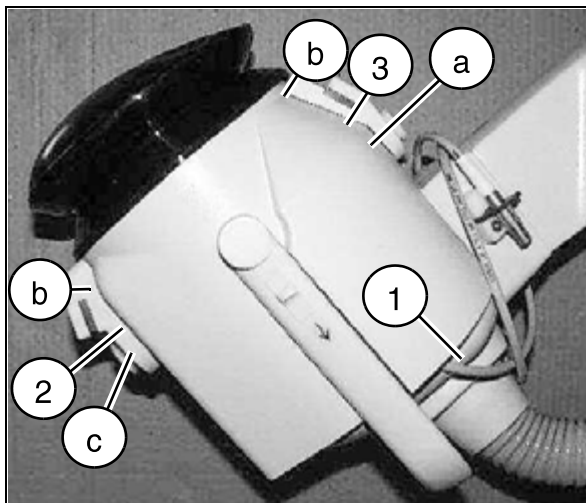

Fig. 49: Attachments 1
- Remove each of the 4 cover panels of the installation openings for the parts (2/3/Fig. 49 / p. 48).
- Check whether the bottom installation openings for the part (3/Fig. 49 / p. 48) are accessible. If not, mark them on the cover panel.
- If necessary, file open the installation opening on the cover panel for the part (3/Fig. 49 / p. 48).
- Reattach the cover panel and guide the cable (1/Fig. 49 / p. 48) out of it.
- Secure the parts (2/3/Fig. 49 / p. 48) with the loose spacer sleeve.
- (a/Fig. 49 / p. 48): long sleeve, screw: M5 x 40 mm
- (b/Fig. 49 / p. 48): short sleeve, screw: M5 x 21 mm
- (c/Fig. 49 / p. 48): short sleeve, screw: M5 x 24 mm.